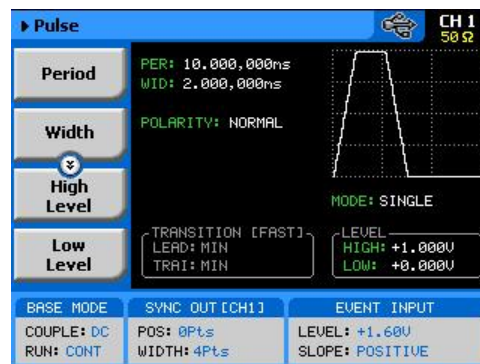

Figure 3-78, User-composed Pulse Patterns Menus
1. Push the Pulse button in the Function group keys. The pulse dialog box, as shown in Figure 3-78 will be displayed.